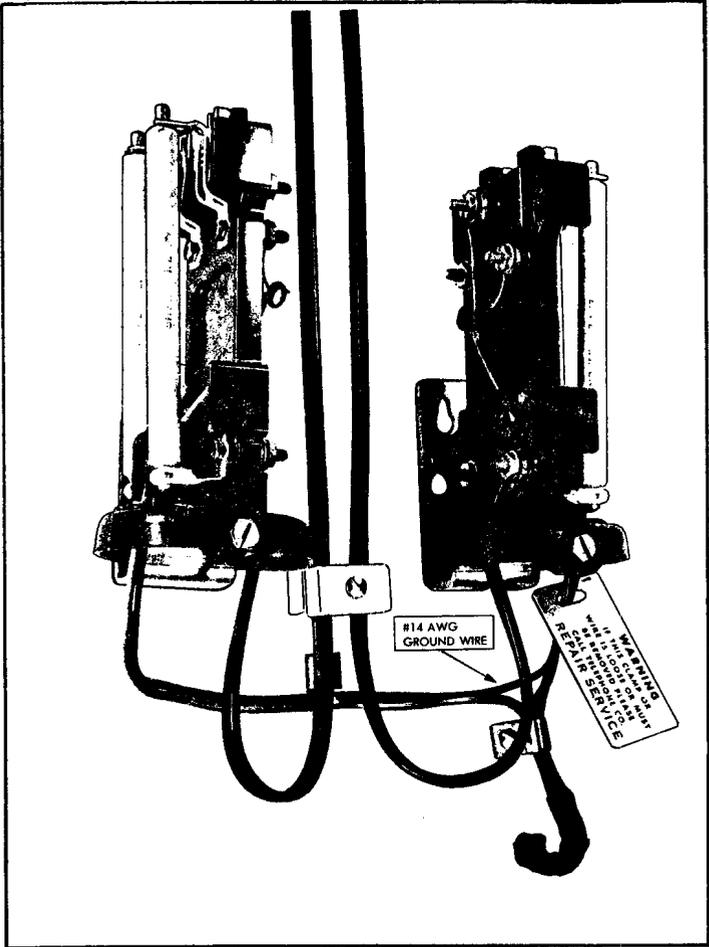

FIGURE 11. Typical Multiple Installation of 2100H Type Fused Protectors
e. Figure 11 shows a typical multiple installation of fused protectors.